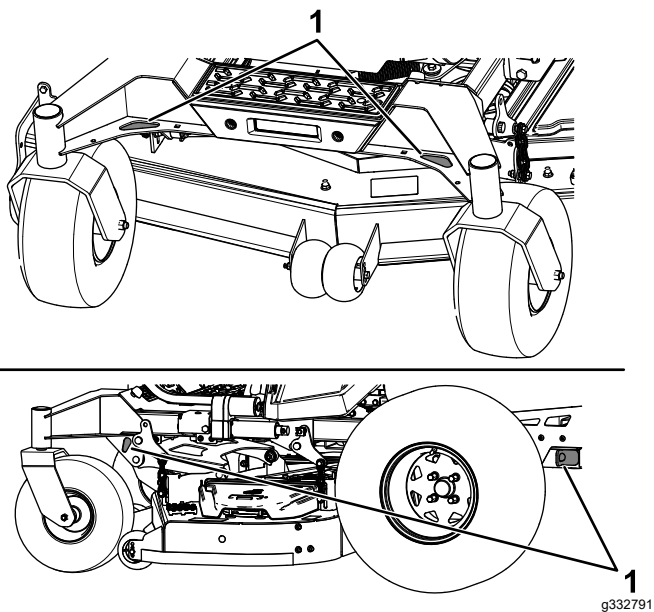

Figure 44
6. Tie down the machine near the front caster wheels and the rear frame with straps, chains, cable, or ropes (Figure 44). Refer to local regulations for tie-down requirements.